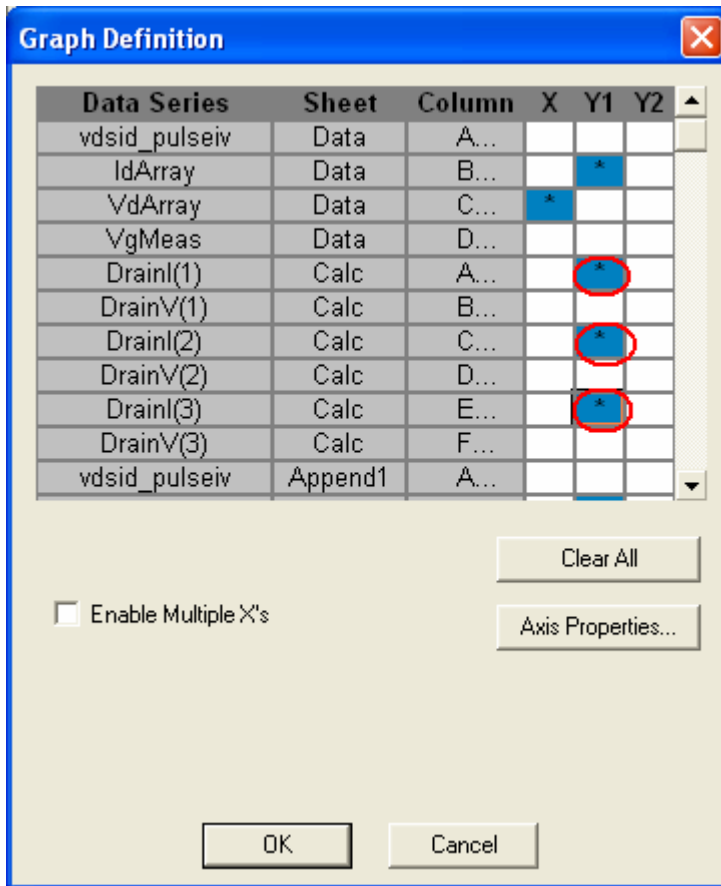

Figure 21. Define graph dialog box with the 3 added DC curves circled.
13. In Figure 21, click the middle column, Y1, to add the appropriate DC curves. In this case, 3 Vds-id curves have been added: Drain1(1), Drain1(2), Drain1(3). Note that all 3 of these Data Series are located in the Calc worksheet, as noted in the Sheet column in Figure 21.